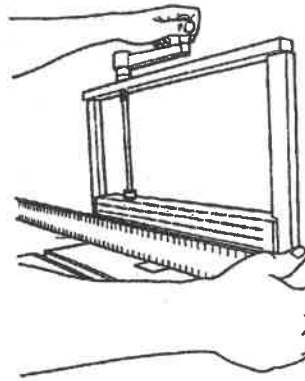
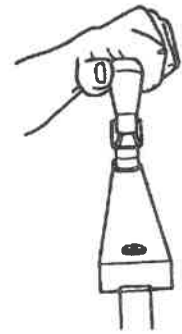

Fig. B-5
Fig. B-6
5. Hold the right end of the straightedge down against the work surface with your right hand, as in Fig. B-5. Then slowly turn the crank, demonstrated in Fig. B-6, clockwise to raise the slide until the top of the bit just touches the ruler. The top of the bit should now be flush with the work surface.